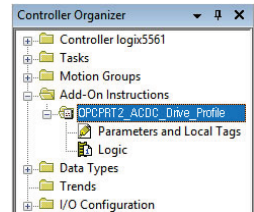

Figure 63: AC/DC Drive Profile Add-On Instruction
- 2) Right click on “Add-On Instructions” in the controller organizer view and select “Import Add-On Instruction”. Browse and import the AC/DC drive profile add-on instruction. Refer to Figure 63.